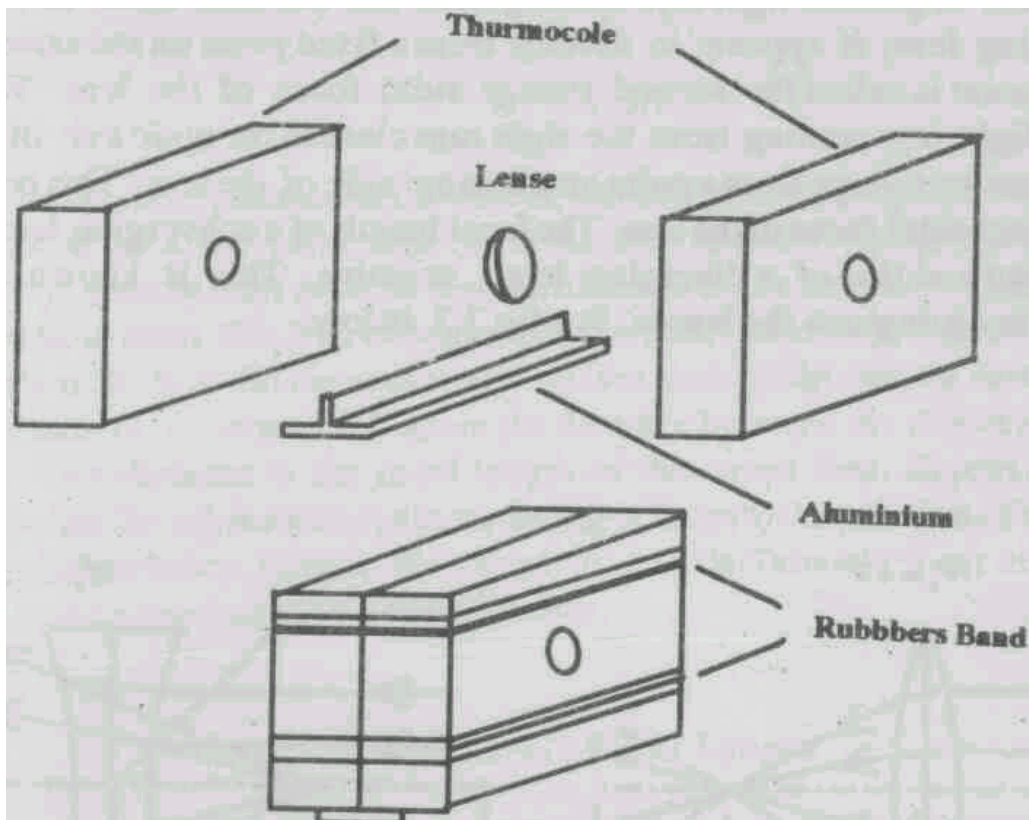

Fig 7.1
**Note:** Lens holders, if not available can be made conveniently and cheaply by cutting circular holes on 15 cm squares of "thermocol" material. The circular holes have a diameter slightly less than the diameter of the lens. A lens is kept sandwiched between two thermocol pieces and rubber bands can be used to press the two thermocols together. To keep the lens mount sturdy, an aluminium T frame can be inserted at the bottom in between the two thermocols, as shown in Fig.7.1.